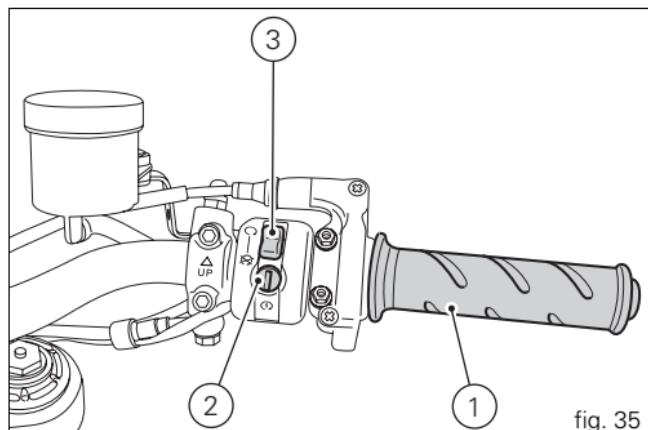
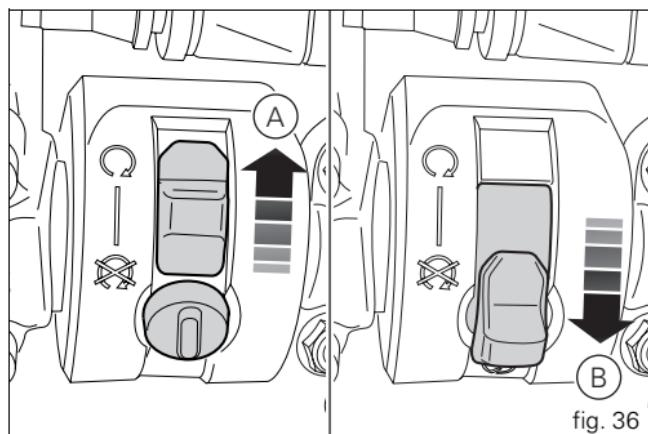

fig. 35
fig. 36
- 1) if the code is recognised, the protection system releases the engine lock. When you press the START (2, fig. 35) switch, the engine will start up;
Right-hand handlebar switch (fig. 35 and fig. 36)
- position \textcircled{O} (RUN) = engine run (A, fig. 36);
- position $\textcircled{\times}$ (OFF) = engine stop (B, fig. 36).
Throttle twistgrip (fig. 35)